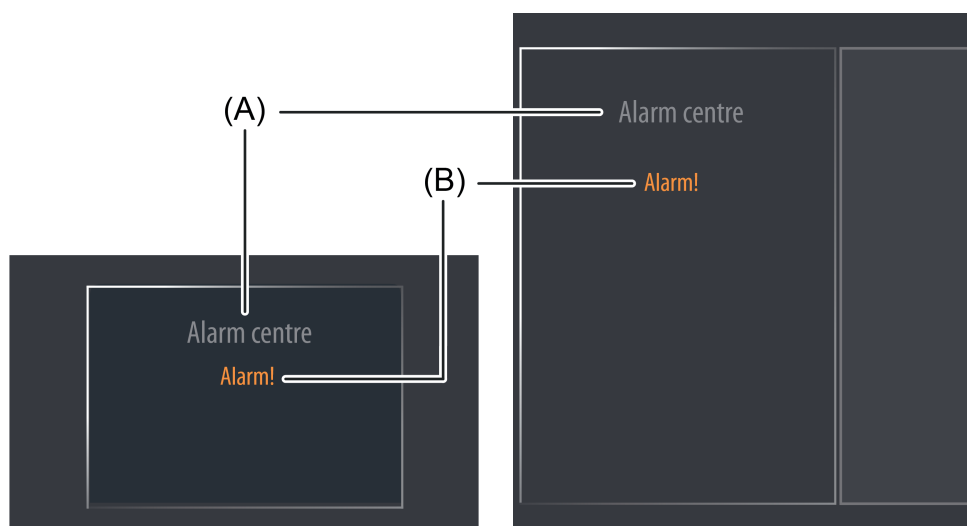

Figure 47: Example of a display element of the KNX function "ASCII text display"
The display area contains different display elements (figure 47) that are influenced by parameters. A name can be assigned to each KNX function in the configuration software (A). This text name is centred in the display element for display whereby controllable KNX functions are identified for the user (e.g. "alarm centre"). The ASCII text (B) is displayed below this. The parameter "Length of the ASCII text" defines the number of text characters to be displayed (max. 14). If the number of characters in the text exceeds the defined number of text characters, the text will be truncated in the display.